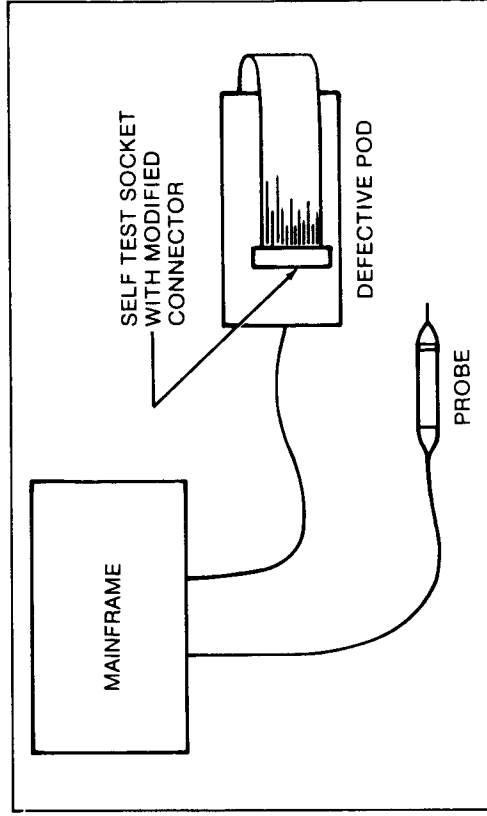

Figure 5-2. Troubleshooting a Defective Pod
2. Connect the pod to the mainframe, and the ribbon cable connector to the UUT, as shown in Figure 5-2. Note that the mainframe is connected by means of the shielded cable, and not by means of a second pod connected to the microprocessor socket. Also, Figure 5-2 shows the self test socket as the UUT, although any suitable UUT may be used. (Refer to Selecting a UUT for Pod Testing.)